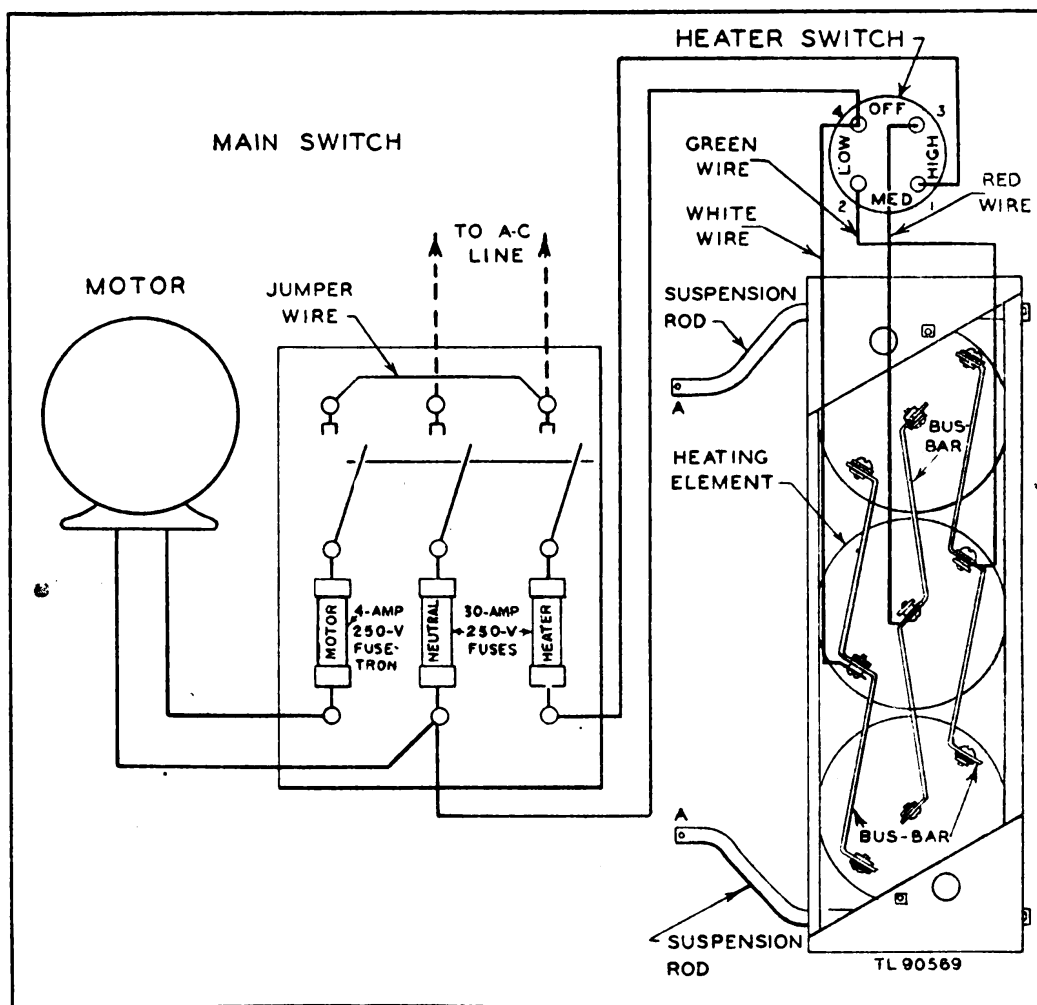

Figure 18. Dryer PH-176, wiring diagram.
c. Replace it with a new drum, and replace all the parts which were removed. Check the wiring carefully (fig. 18).